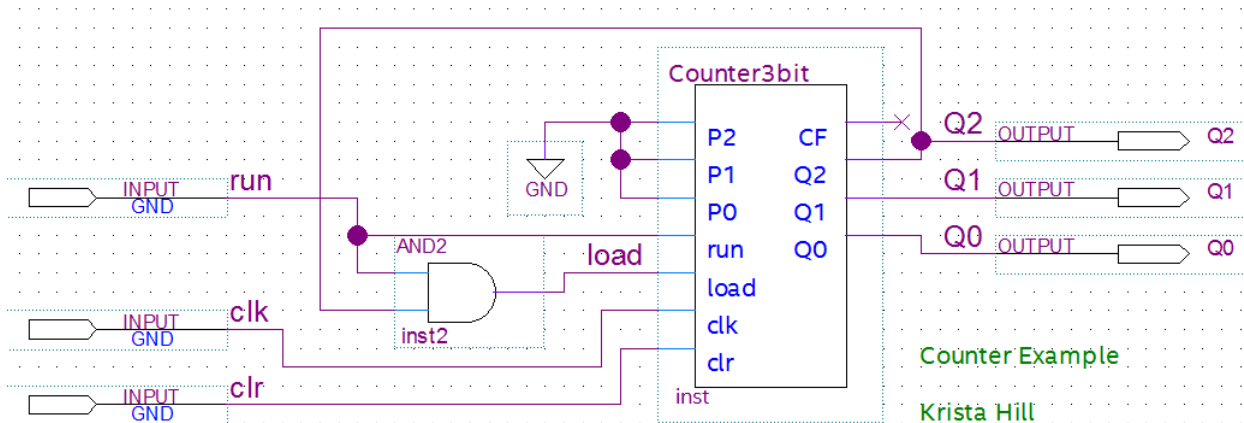

Figure 29: Example module based counter Counter3ex
Here, we use ModelSim to simulate the counter circuit schematic shown in Figure 29. The Counter3bit symbol is outlined in section 12. Here a symbol was made for Counter3bit, using VHDL code from the compressed file Counter3.zip, as described in that section. The Counter3bit symbol is used in a circuit that counts starting at zero (000) and then overflows after four (100). As always, before attempting to simulate a circuit, make sure that it compiles as debugging later will be more difficult.